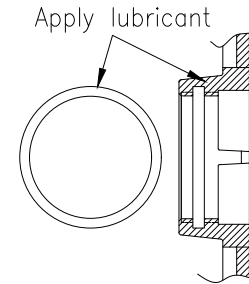

Figure 9.
9. Using the o-ring seal and lubricant bag, ensure the o-ring and coupling are well lubricated. Insert the o-ring, ensuring it does not twist. See **Figure 9**.